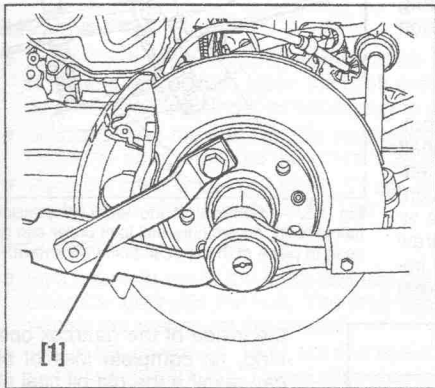
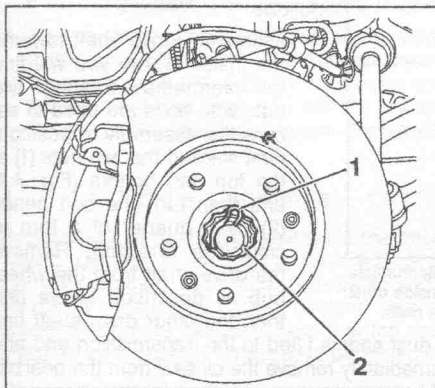

Fig. 4.1. — Counterholding the wheel hub during removal of a drive shaft nut. Arrange the tool lever (1) on the other side when the nut is tightened.
Fig. 4.2. — The securing pin (1) and the nut lock (2) must be removed before the drive shaft nut can be slackened.
- Counterhold the wheel hub in suitable manner, remove the securing pin (1) in Fig. 4.2 out of the drive shaft end, remove the nut lock (2) and slacken the nut with a 35 mm socket. Normally a fixture as shown in Fig. 4.1. is used to restrain the hub. Otherwise screw two wheel bolts back into place and insert a tyre lever between the bolts
- Refit the front wheels and lower the vehicle to the ground. Tighten the hub nut to 35 kgm (252 ft.lb.). Fit the nut lock over the tightened nut and insert the securing clip (see Fig. 4.2). If it cannot be immediately, remove the nutlock, tighten the nut a little more and refit the nut lock and the securing clip. Make sure the clip is fully inserted. Tighten the wheel bolts to the specified torque